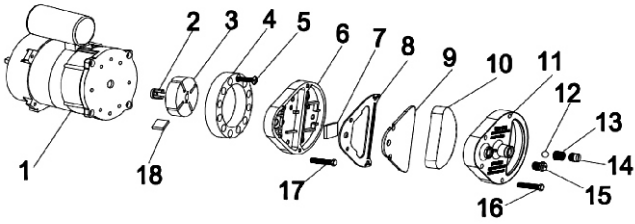

Fig.2
Clean air filters. Remove filter end cover (11), wash air intake filter (10) using a light detergent and dry it thoroughly before reinstalling. Replace air delivery filter (8) once a year (see Fig.2)